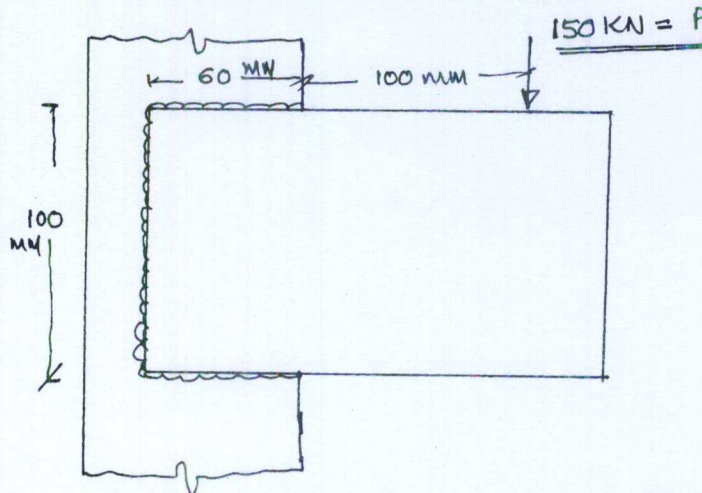

Fig.Q3
- 3 Calculate the size of weld required for the joint shown in Fig.Q3.